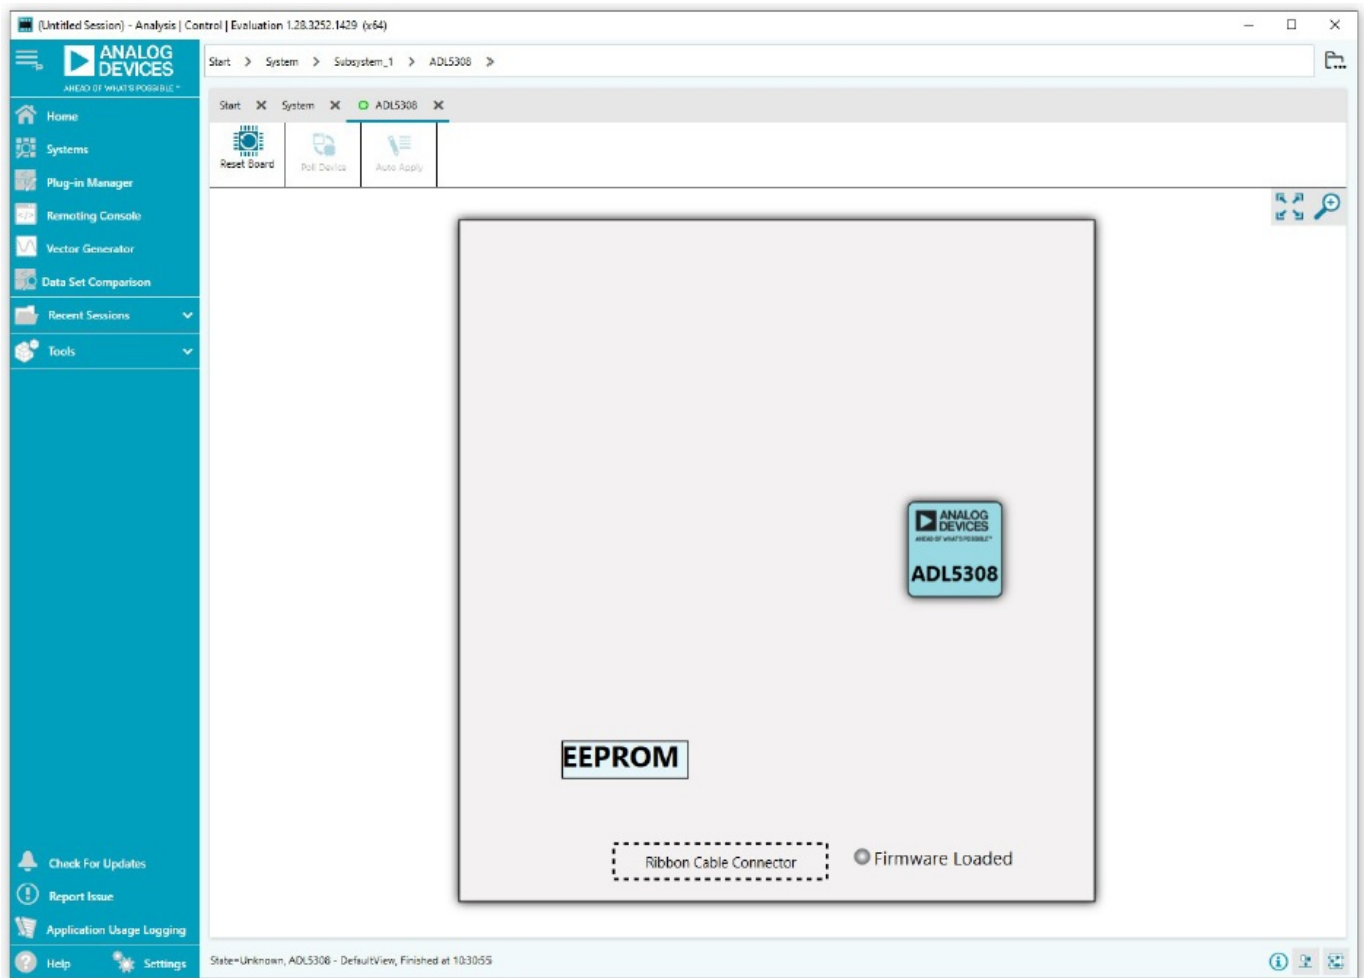

Figure 3. Plug-in View with the Evaluation Board Connected to the ACE System
11. The ACE software shows that the ADL5308 plug-in is available on the Attached Hardware. Double-click the plug-in to add to the system. A successfully connected system with a properly loaded plug-in is shown in Figure 3.